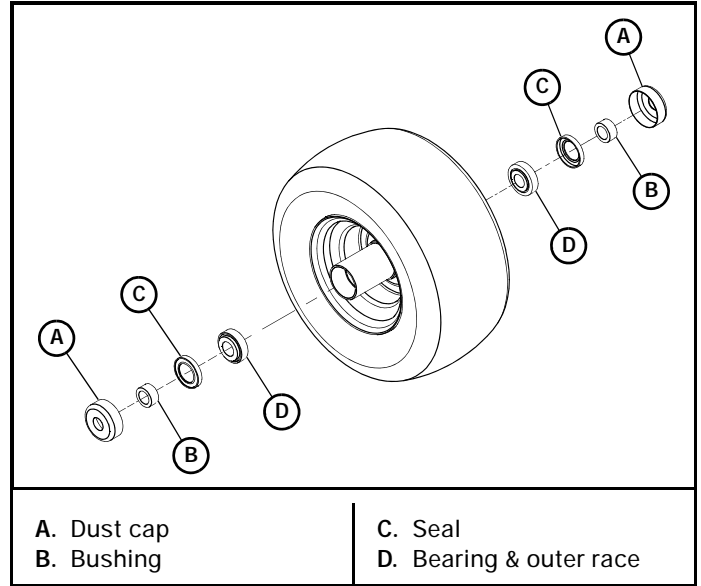

Figure 4-43
5. Insert the bushings through the seal openings and push them in until they contact the tapered roller bearings. Figure 4-43
6. Push the dust caps onto the wheel housing. Figure 4-43